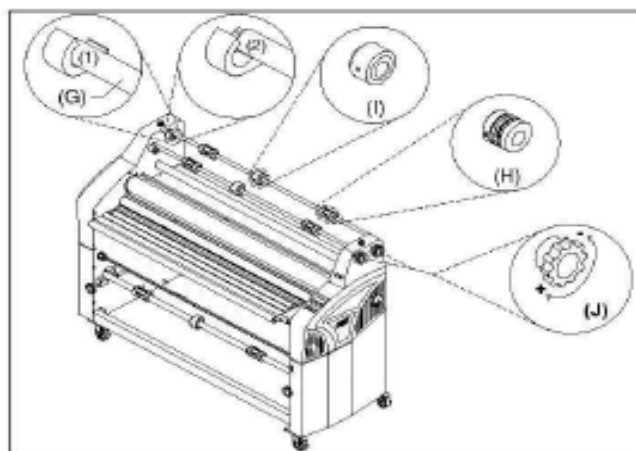

Fig. 16
(Figure 16) The upper unwind/rewind shaft holds the upper film supply or rewind tube on the machine.
H. CORE ADAPTORS: (Figure 16) Hold and lock the rolls of film on the shafts to prevent side to side shifting.
I. CORE SUPPORT: (Figure 16) Supports the center of the film core.
J. UPPER UNWIND/REWIND TENSION KNOBS: (Figure 16) Used to apply brake tension to the upper unwind/rewind shafts. Turning the knob clockwise increases tension and counterclockwise decreases brake tension.